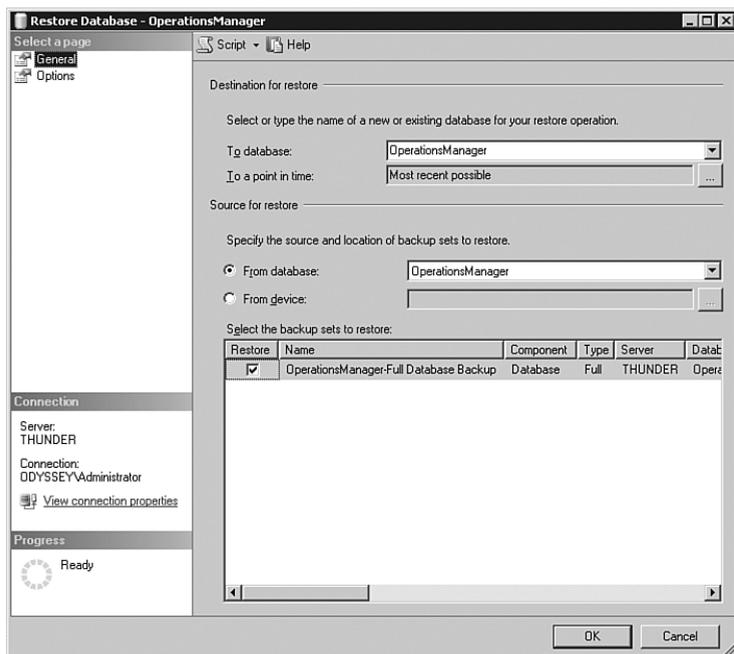

FIGURE 12.14 The Restore Database screen.
3. Restore the database from the last backup. Right-click on Databases and select Restore Database. In the Source for Restore section, select From Database, and select OperationsManager from the drop-down list. This displays the Restore Database screen, as shown in Figure 12.14.